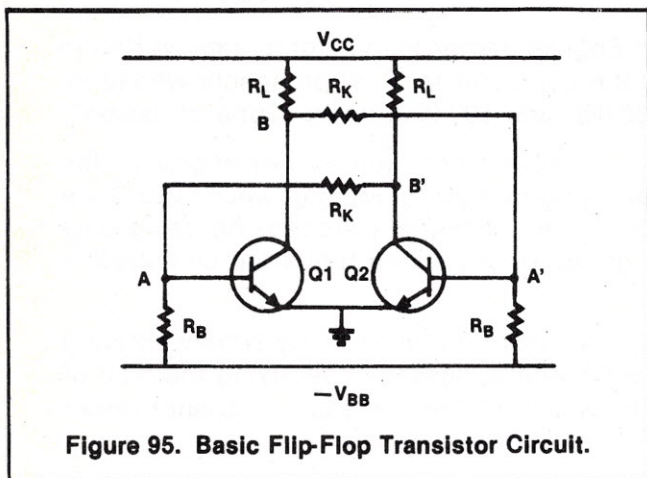
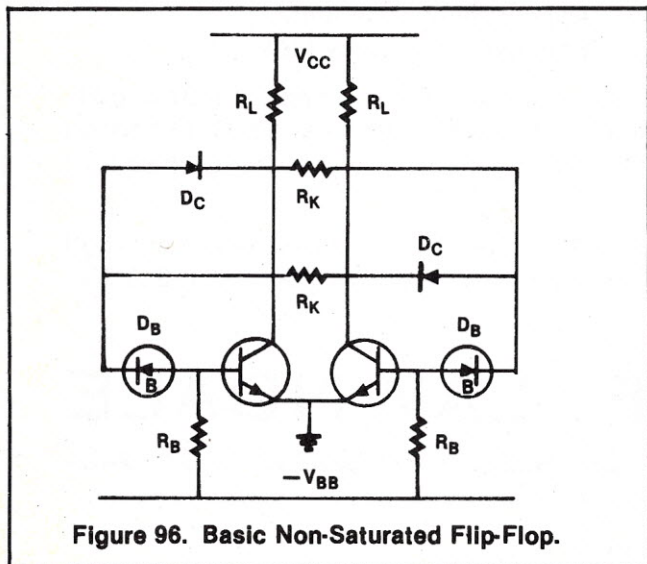
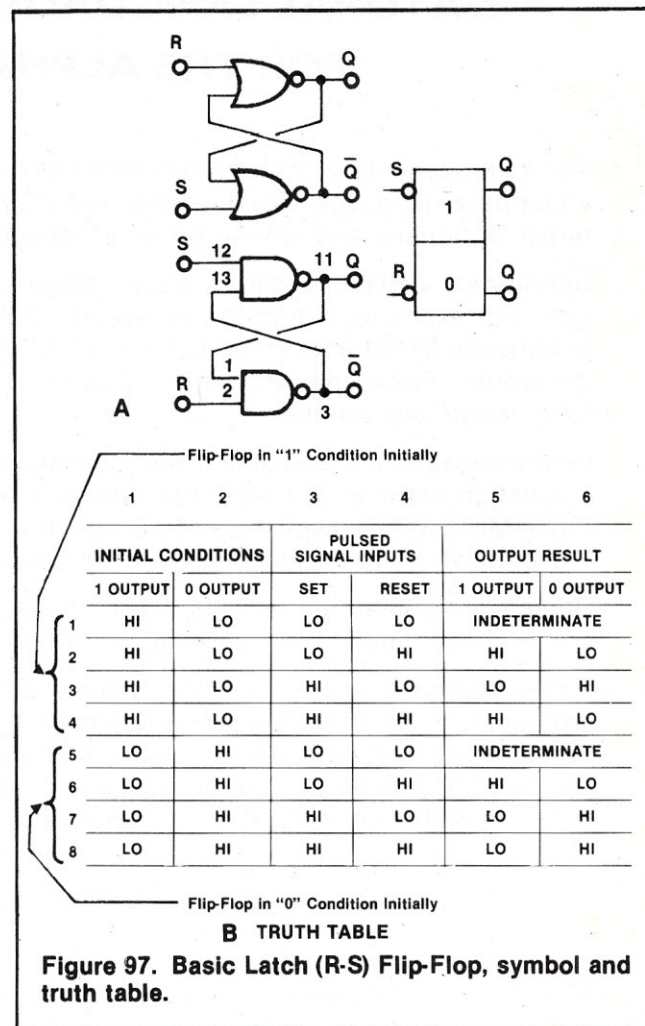

Figure 95. Basic Flip-Flop Transistor Circuit.
Figure 96. Basic Non-Saturated Flip-Flop.
Figure 97. Basic Latch (R-S) Flip-Flop, symbol and truth table.
The basic flip-flop circuit using saturated transistors is shown in Figure 95. This circuit which is called reset-set (R-S) flip-flop or latch is stable in either of two states. To change from one state to the other, signals must be applied alternately at either the A points for base triggering or the B points for collector triggering. Either type of triggering requires pulses from two sources. One is the set (S) pulse and the other the reset (R) pulse.
One technique for designing a non-saturated flip-flop circuit is employing a Baker clamp to hold the transistors out of saturation, using a silicon diode as a reference diode and a germanium diode as a switching diode. This technique, applied to flip-flop circuits, is shown in Figure 96 where clamping reference diodes Dc have been added to the basic circuit of Figure 95.
The R-S flip-flop of Figure 96, also called "latch," as well as many other types of flip-flops, can be implemented using IC NOR or NAND gates, as shown in A and B of Figure 97.
Figure 98 shows the arrangement, logical symbol and truth table for the clocked R-S flip-flop. This circuit has two separate sections with the flip-flop section being the same as in the R-S flip-flop shown in B of Figure 97.